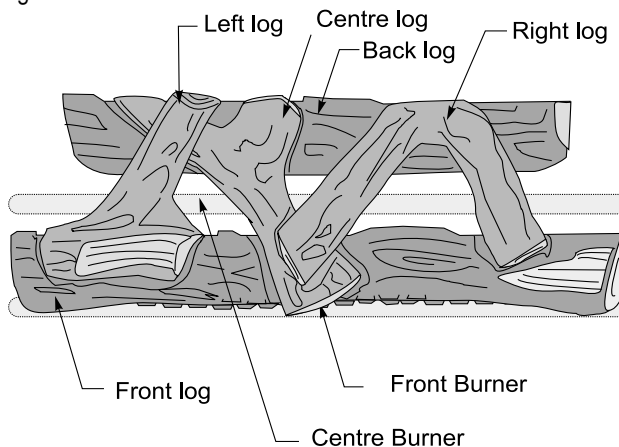

Figure 8b. Proper log placement.
4. Place the top logs in position as shown in figure 8b, place the centre log down first, then the right and left logs.